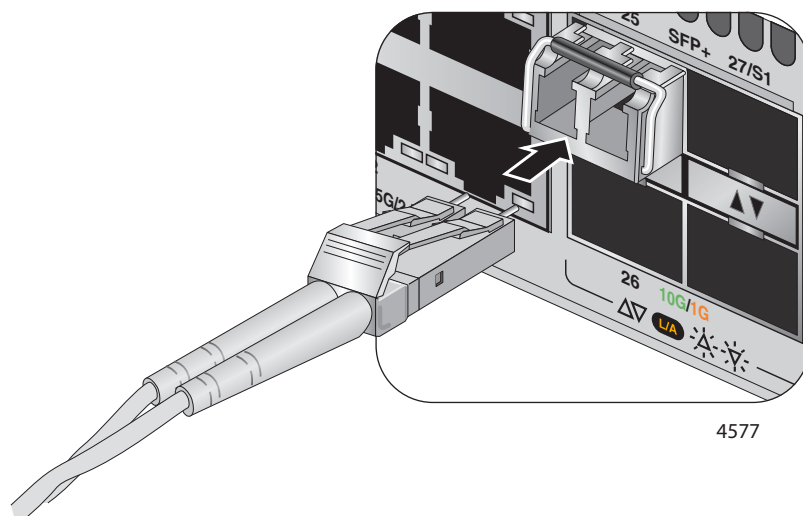

Figure 56. Connecting a Fiber Optic Cable to an SFP or SFP+ Transceiver
6. Connect the fiber optic cable to the transceiver, as shown in Figure 56. The connector on the cable must fit snugly into the port, and the tab must lock the connector into place.